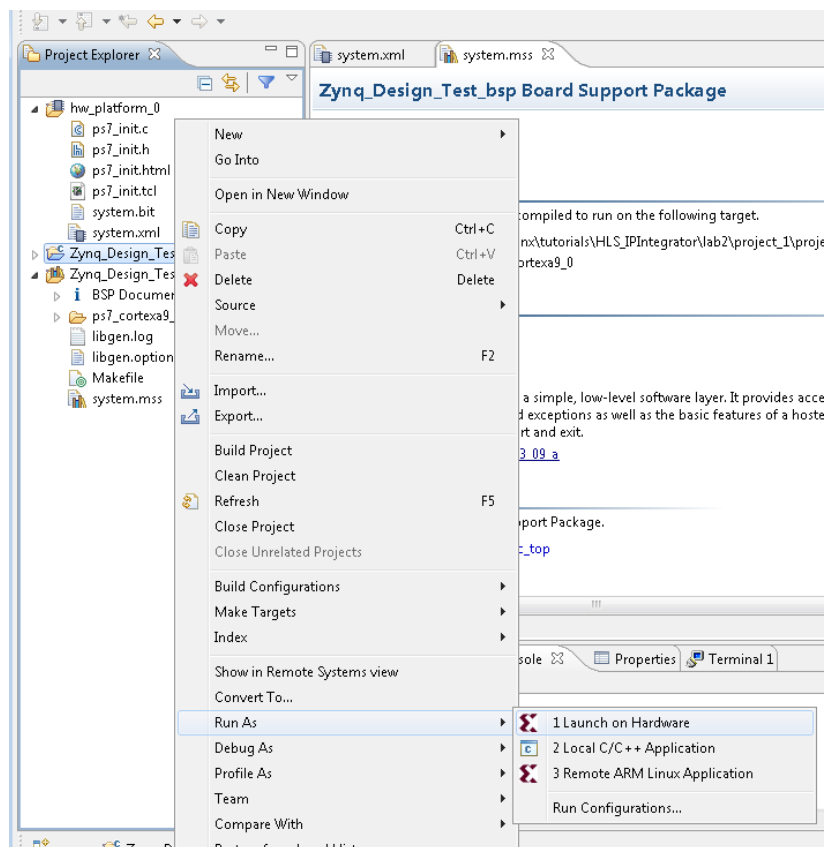

Figure 241: Run the Application Project
9. Right-click the application project **Zynq_Design_Test** in the Explorer pane (Figure 241).